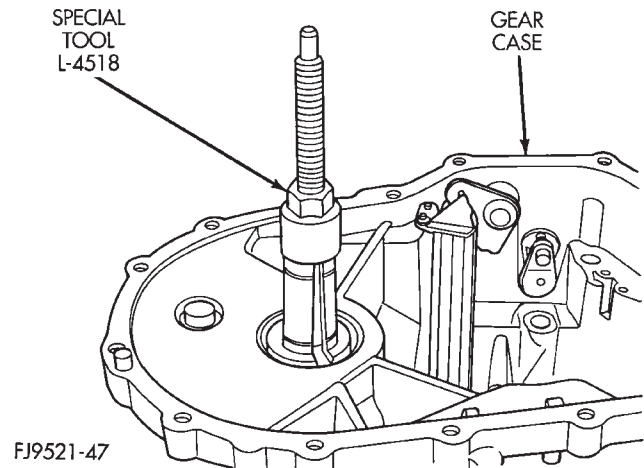

Fig. 140 Tool Installed in Bearing
(1) Remove differential assembly from gear case using the procedure outlined in this group.
(2) Install Miller tool #L-4518 into the differential bearing cup (Fig. 140).